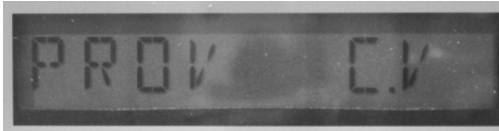

Figure 4 - LCD screen displays **PROV C.V**
- Using the magnet, swipe across the black dot, which is to the right of the LCD display screen, until the screen displays **PROV C.V** (Figure 4), and then stop swiping.